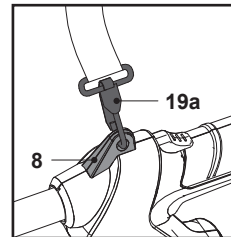

Fig. 14
4. Lock the harness on the suspension sleeve (8) (Fig. 14).